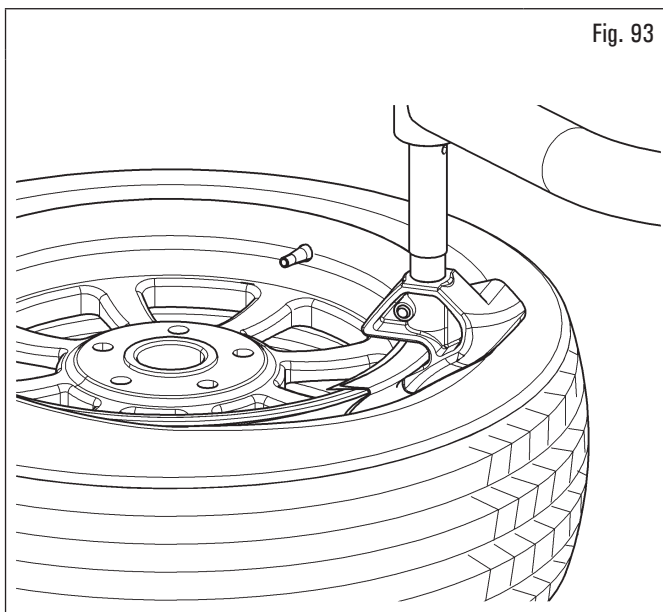

Fig. 93
11. insert the wedge tool on the edge of the rim at the right end of the bead protection foil (Fig. 93) or the bead protector (Fig. 94) applied to the edge of the rim;